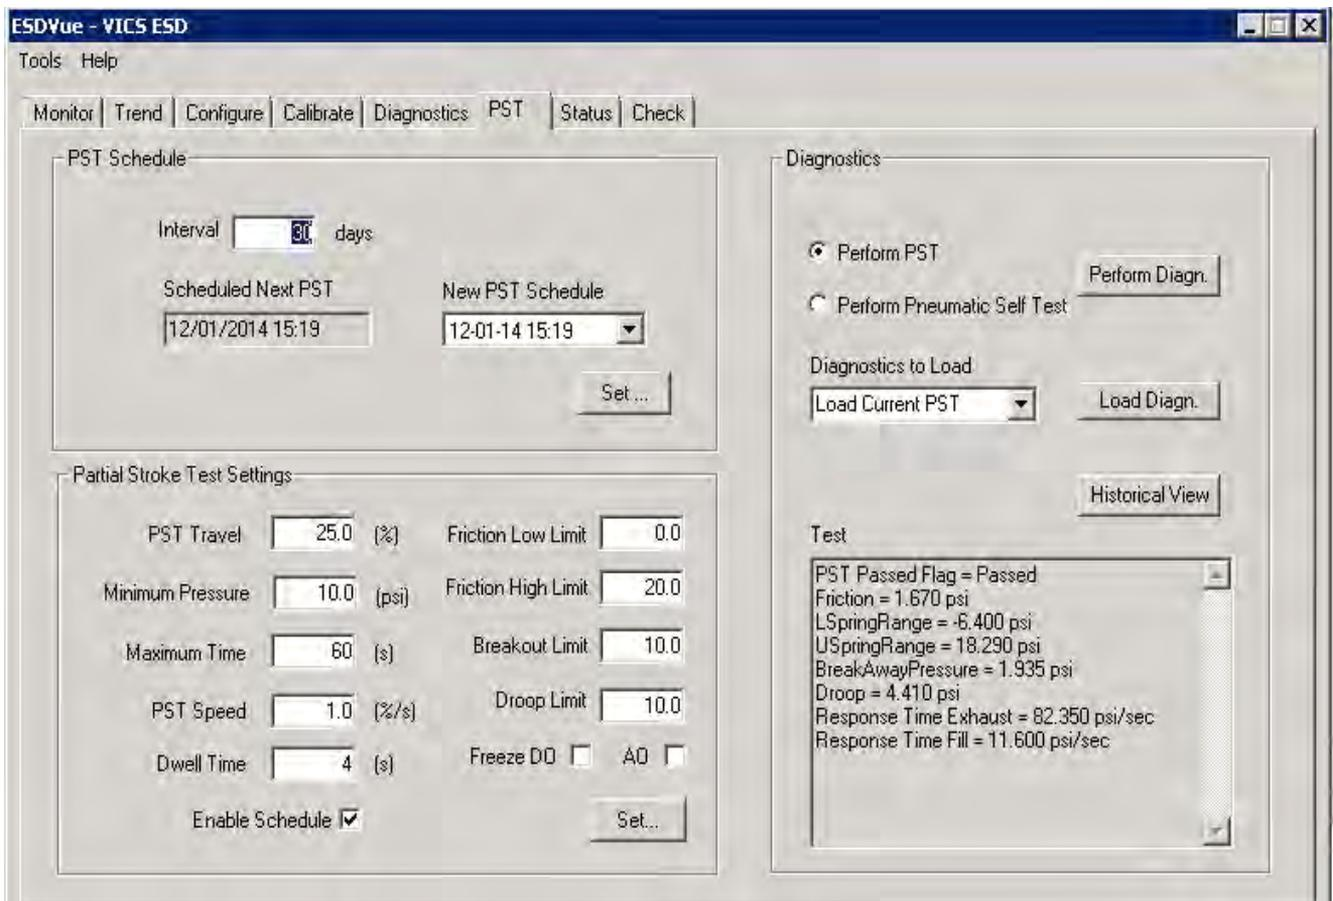

Figure 243 Changing Interval of Days
1. Click in the **Interval days** field and enter a new value for interval of days (Figure 243).